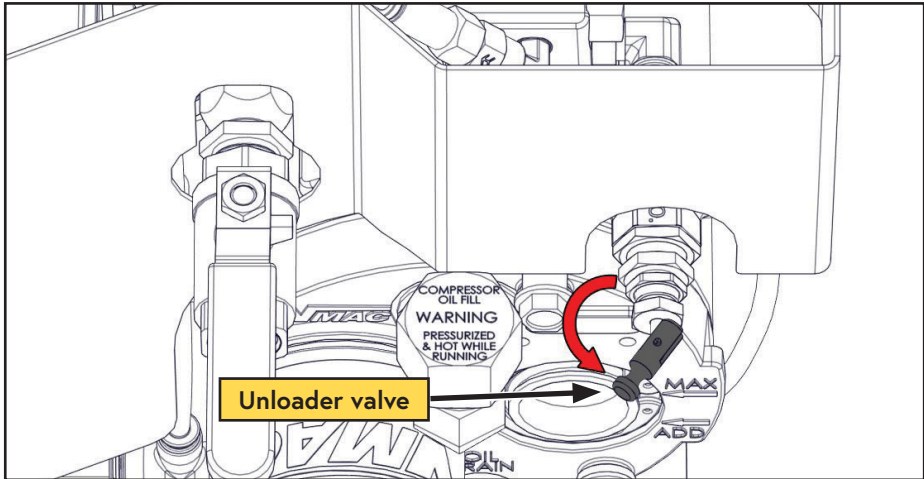

Figure 20 — Unloader valve
6) Actuate the unloader valve by pulling out the handle (Figure 20).